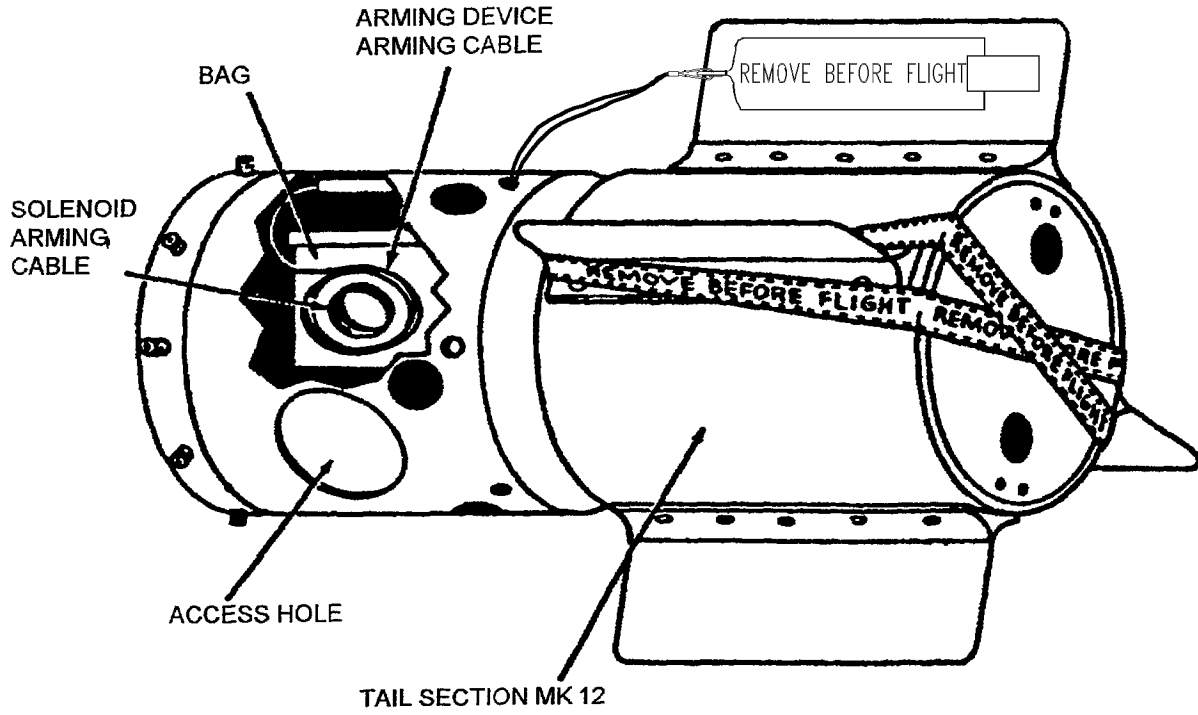

Figure 4-15B. Arming Cable (Arming Device and Solenoid) Removal from Tail Section Mk 12 (Mine Mk 63)
- (1) Reach into access hole in tail section and remove bag taped to inside wall containing one arming device arming cable, with safety pin and cinch tab, and one solenoid arming cable, with safety pin and cinch tab (Figure 4-15B).
- (2) Remove both cables from bag. The solenoid arming cable is used with the B-52 and rigged per paragraph 4-15.3.
- (3) Uncoil the arming device arming cable, connected to tail section, and pass it through the 3/4-inch hole located above and forward of the access hole.